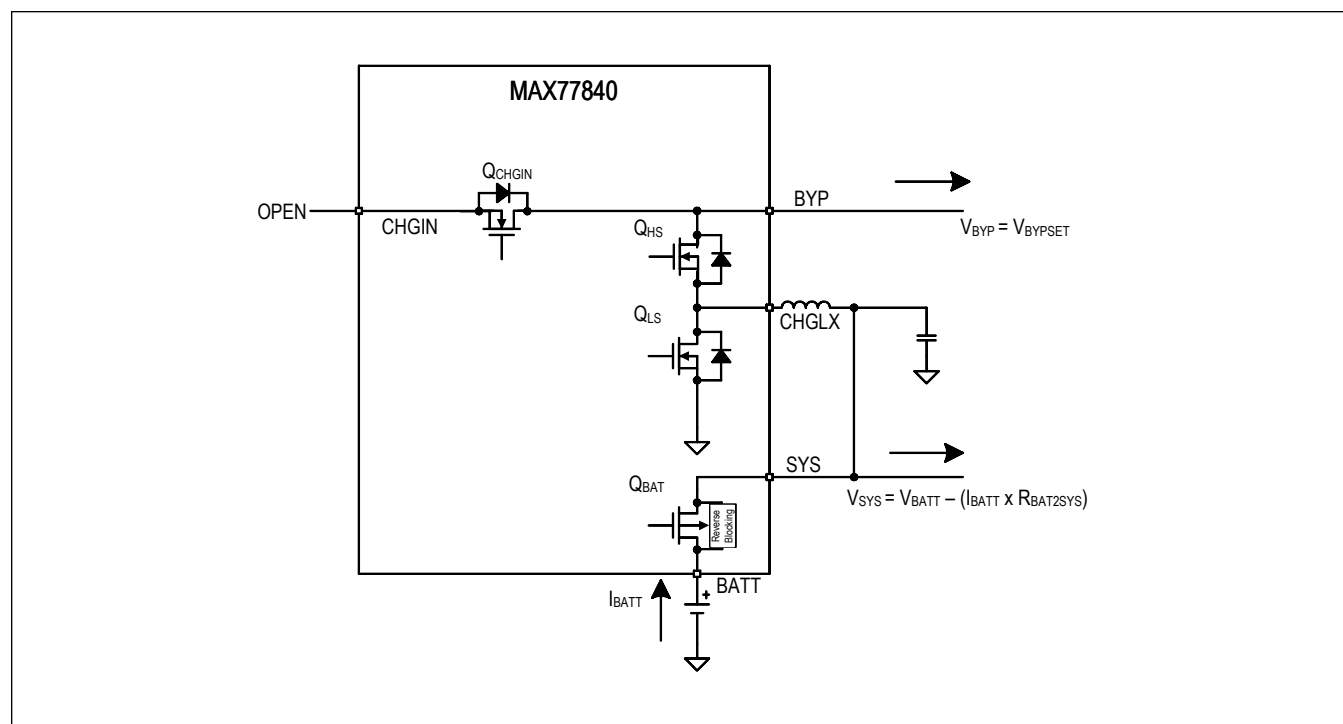

Figure 5. Battery-Boost
3. BATTERY-BOOST, MODE = 0x08: The adapter voltage is invalid, outside the input voltage operating range (Q_{CHGIN} = off). Battery is connected to power the SYS load (Q_{BAT} = on), and charger is operating in Boost mode (Boost = on), see Figure 5.